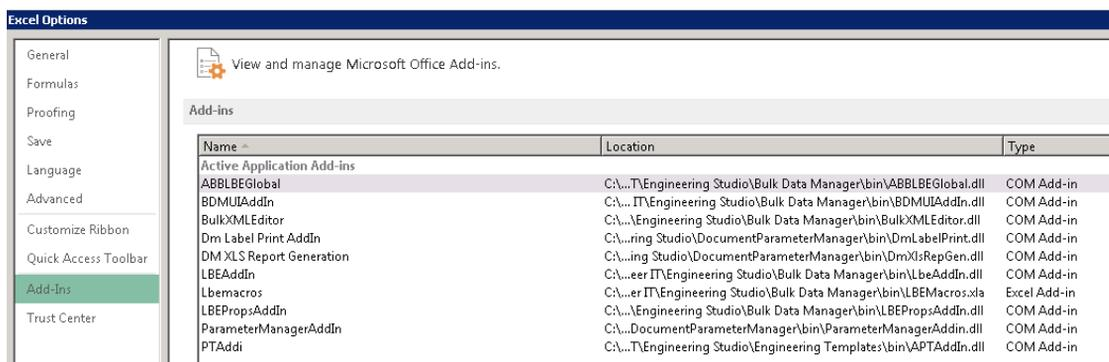

Figure 5. Engineering Studio Add-Ins
2. Navigate to **File > Excel Options > Add-Ins > Active Application Add-ins**. Refer to Figure 5 to view the Engineering Studio Add-ins.